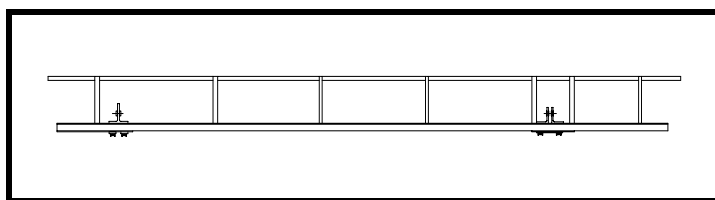

Figure 2
- ❑ Install the leading edge strip. For the simplest construction and stiffness during assembly, the leading edge strip should be continuous to the bottom of the rudder. See Figure 2.